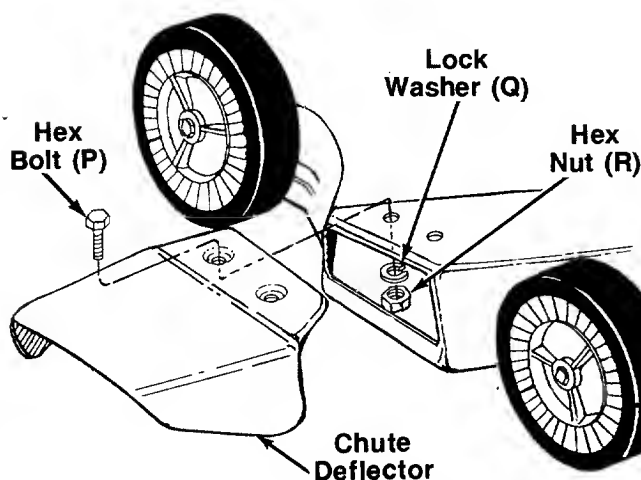

FIGURE 11.
Place the chute deflector in position on the deck. Secure with hex bolts (P), lock washers (Q) and hex nuts (R). See figure 11.